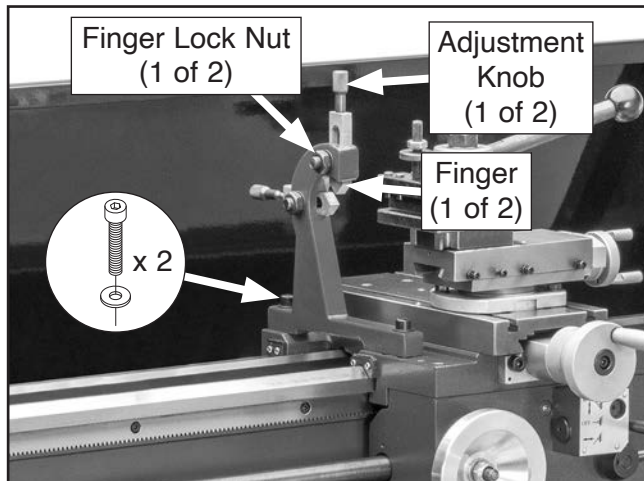

Figure 62. Follow rest components.
2. Place follow rest base on saddle and secure with (2) M8-1.25 x 25 cap screws and 8mm flat washers (see **Figure 62**).
3. Loosen (2) finger lock nuts so finger positions can be adjusted (see **Figure 62**).